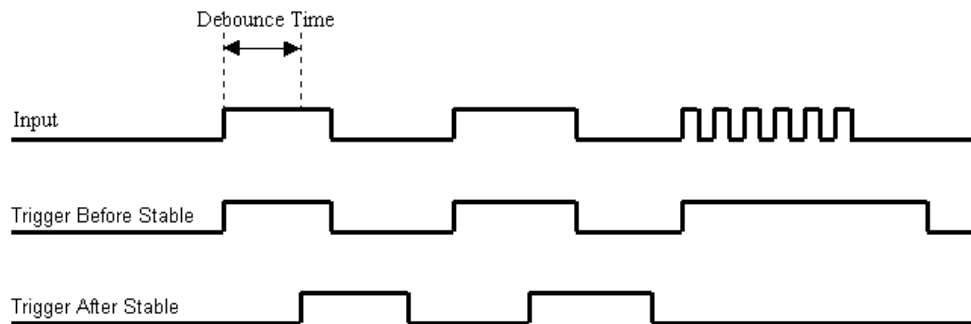

Figure 15. Optimal debounce time for trigger after stable mode
*Trigger after stable* mode behaves more like a traditional debounce function: rejecting glitches and only passing state transitions after a required period of stability. *Trigger after stable* mode is used with electro-mechanical devices like encoders and mechanical switches to reject switch bounce and disturbances due to a vibrating encoder that is not otherwise moving. The debounce time should be set short enough to accept the desired input pulse but longer than the period of the undesired disturbance as shown in Figure 15.